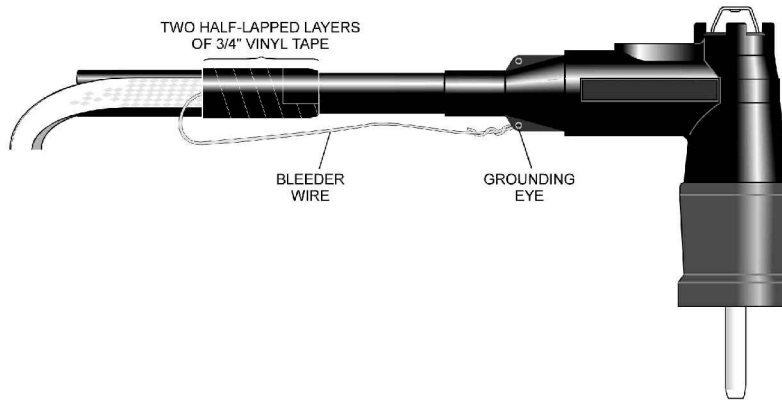

FIGURE 7
STEP 20: TIGHTLY WRAP TWO HALF-LAPPED LAYERS OF 3/4" VINYL TAPE, (SEE TABLE 6) IN THE SAME DIRECTION AS THE CONSTANT TENSION SPRING FROM THE EDGE OF THE LC SHIELD, ACROSS THE CONSTANT TENSION SPRING, AND DOWN THE CABLE JACKET TO THE POINT WHERE IT COVERS THE SOLDER CONNECTION OF THE DRAIN WIRE ON THE GROUND BRAID. SEE FIGURE 7.
STEP 21: LOOP THE DRAIN WIRE (SINGLE WIRE ATTACHED TO THE GROUNDING BRAID), OR ONE OF THE CONCENTRIC NEUTRAL STRANDS IF USING CONCENTRIC NEUTRAL CABLE, THROUGH THE GROUNDING EYE ON THE ELBOW AND WRAP LIGHTLY AS SHOWN IN FIGURE 7. BE CAREFUL NOT TO DAMAGE THE GROUNDING EYE. CUT OFF ANY EXCESS LENGTHS OF THE DRAIN WIRE ON THE GROUND BRAID AND USE THIS, OR STOCKED DRAIN WIRE SEE TABLE 7, TO GROUND THE SURFACE OF THE BUSHING INSERT.